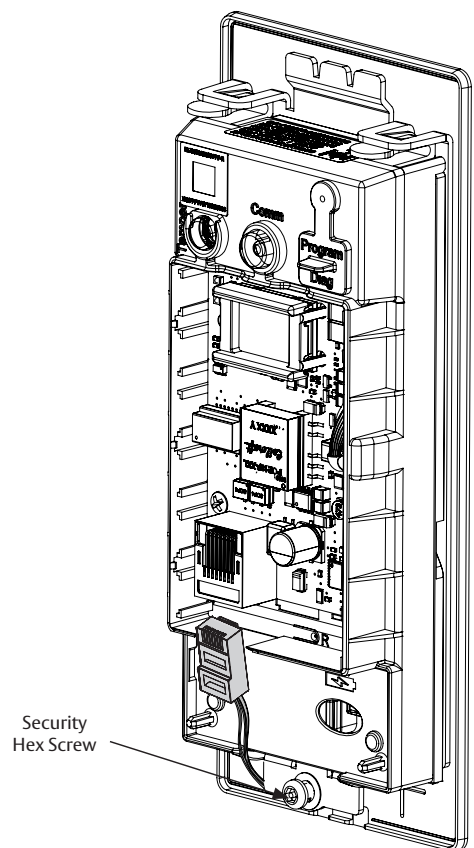

Figure 11-5A
IMPORTANT: Before inserting PoE plug into PoE connector, apply dielectric grease to top of plug, covering the pin area (Figure 11-5A).
1. Once controller is securely in place, connect RJ45 male connector to female RJ45 port on controller board (Figure 11-5A).